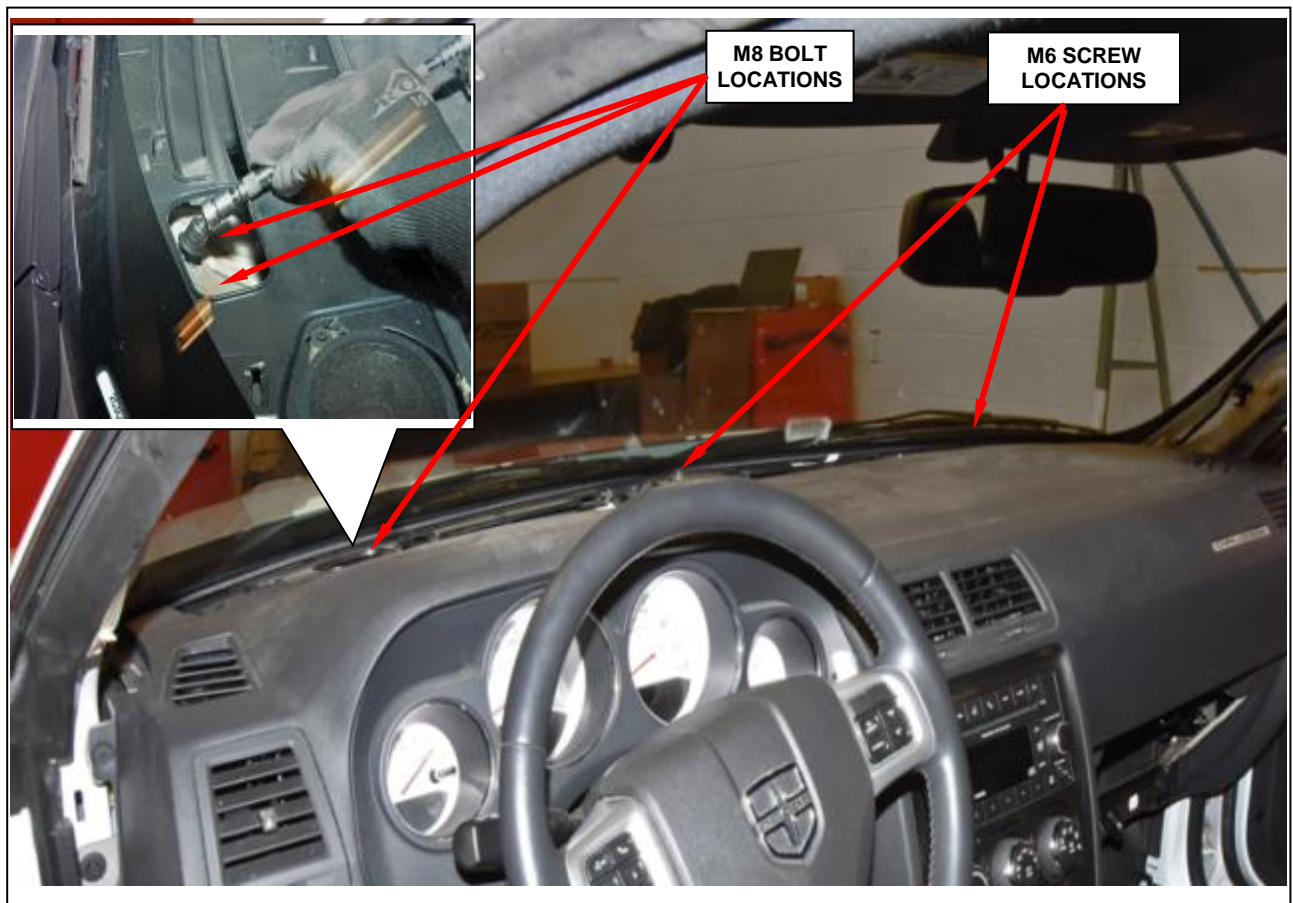

Figure 57 – Top Instrument Panel Fasteners
33. Remove the defroster grille to access the instrument panel top retaining bolts then remove and save the two M8 bolts and two M6 screws (Figure 57).